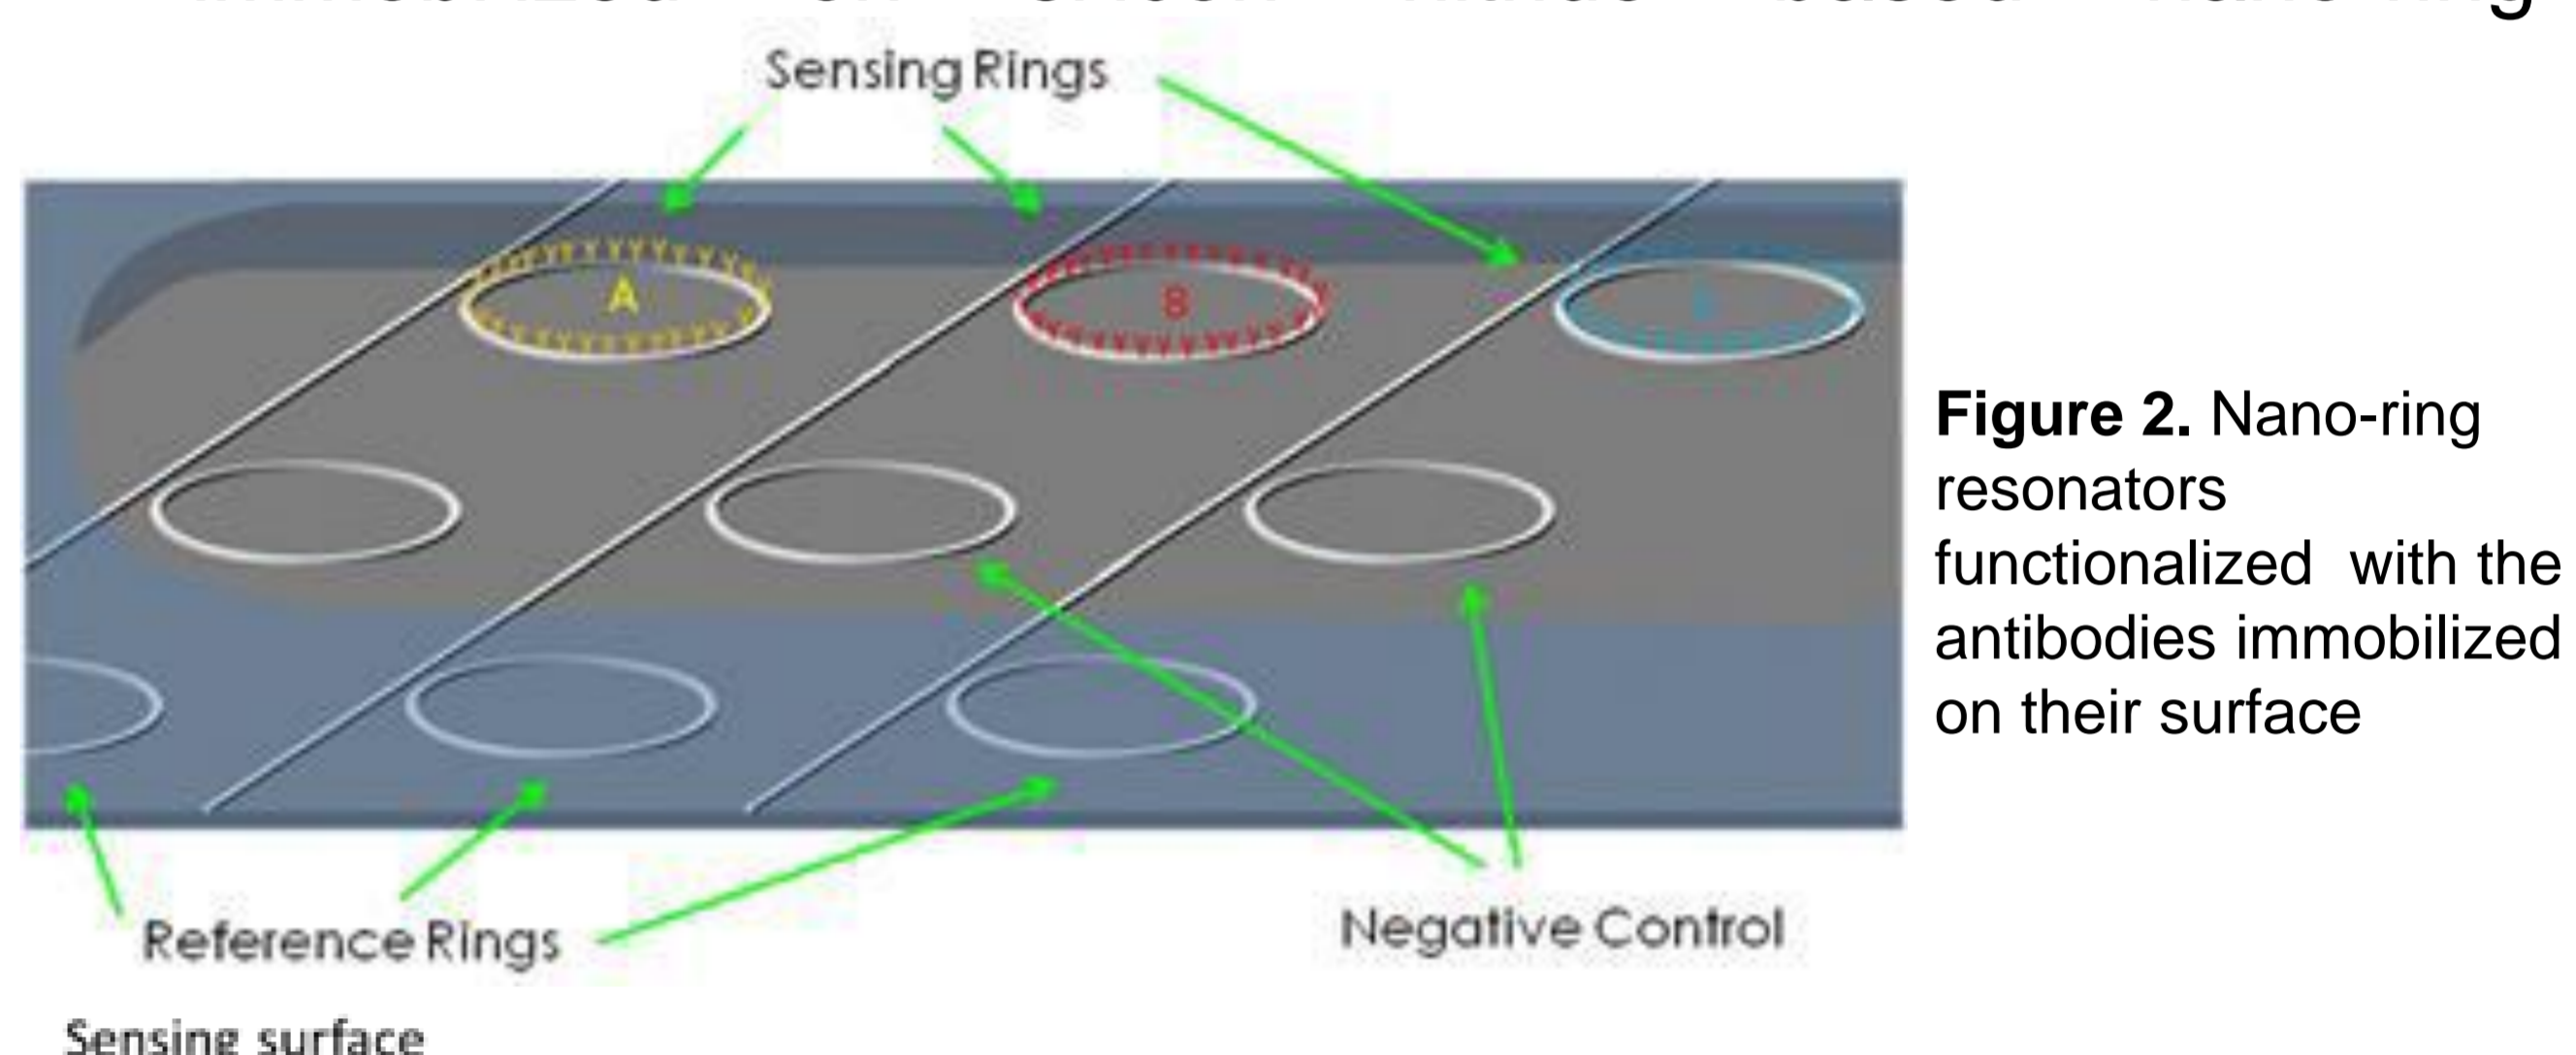

Figure 2. Nano-ring resonators functionalized with the antibodies immobilized on their surface
- Photonic transducer (Figure 2, 3a)** – antibodies immobilized on silicon nitride based nano-ring